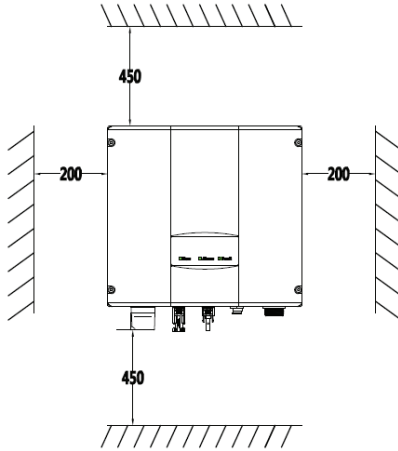
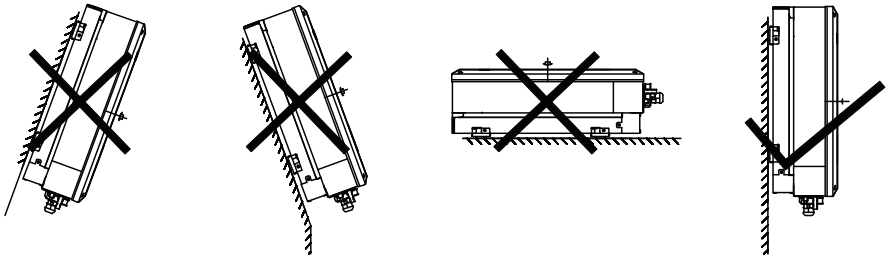

Figure 8 Installation space
Figure 9 Installation position
- (1) The height of the installation position should ensure that the line of sight is at the same level as the LCD for viewing the parameters of inverter conveniently.
- (2) Select a well ventilated place sheltered from direct sun radiation and rain.
- (3) Allow sufficient space around the inverter to enable easy installation and removal from the mounting surface and air convection. (See Figure 8).
- (4) The ambient temperature of installation should be -25°C~60°C
- (5) The installation site should be away from electronic devices which can generate strong electromagnetic interference.
- (6) The inverter needs to be installed on a firm and sturdy surface, such as wall and metal bracket and so on.
- (7) The installation surface should be perpendicular to the horizontal line. (See Figure 9)
- (8) The installation should ensure that the inverter is reliably grounded, and the material of grounded metal conductor should be consistent with the metal material reserved for the grounding of the inverter.